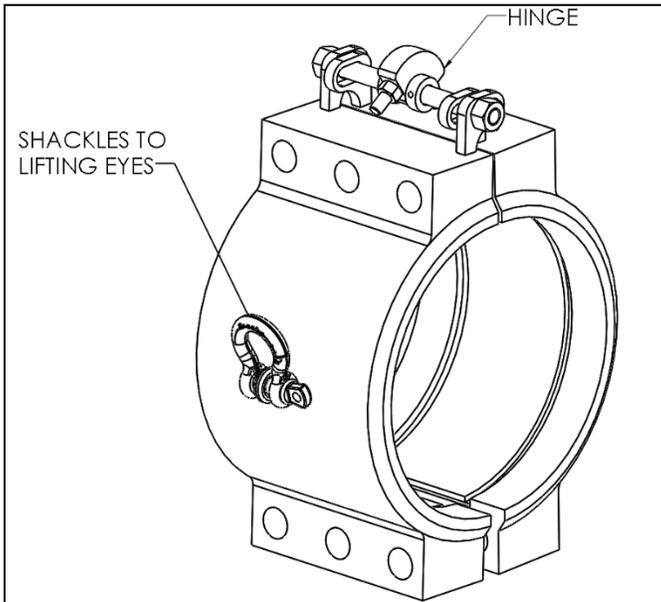
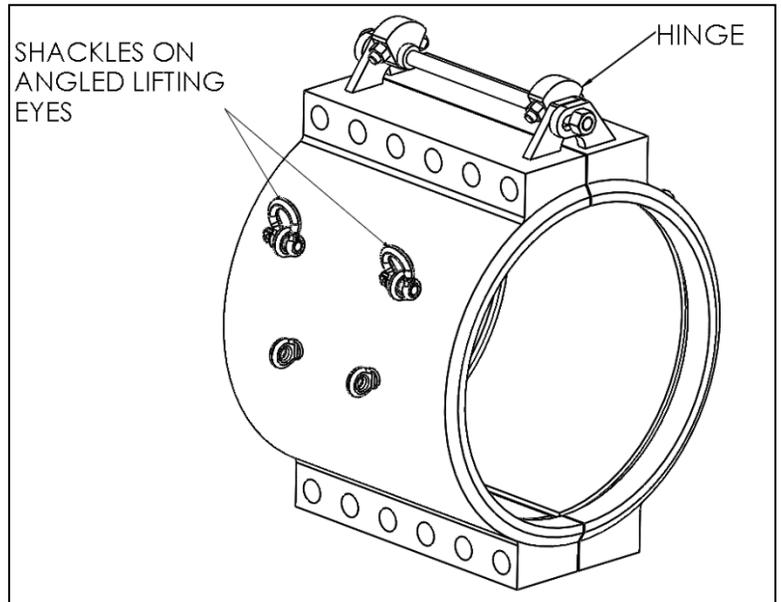

Figure 8
Figure 9
1. Orient the Clamp+Sleeve and remove all studs and nuts as shown in Figures 8 & 9.
2. Attach shackles to the lifting eyes. Smaller fittings typically only have lifting eyes in the center of the shell as shown in Figure 8. Larger diameter fittings have additional lifting eyes on an angle as shown in Figure 9. For larger diameter fittings, the angled lifting eyes are to be used during installation with hinges.